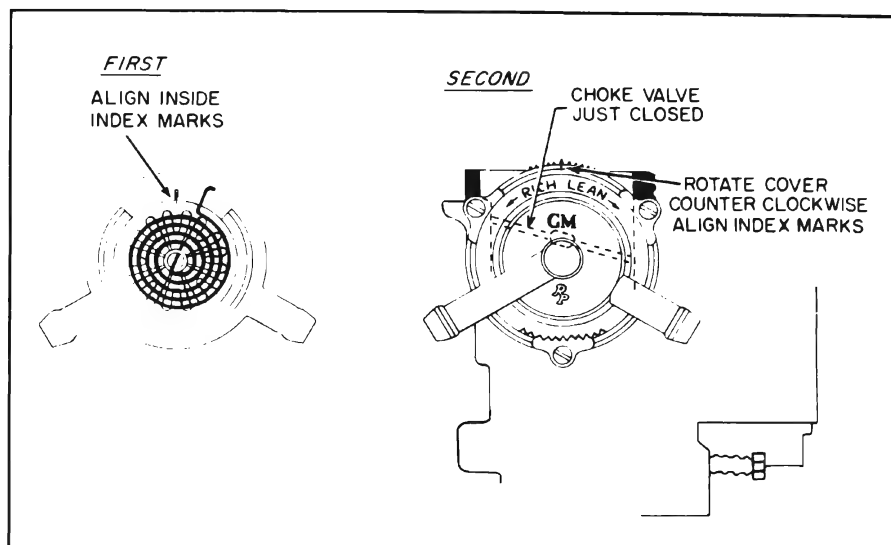

Figure 3-37—Choke Coil Adjustment
2. Before tightening the large outer to inner cover retaining screw, align index marks inside cover to the index mark on the outer cover. Then tighten the large screw securely. This is very important for proper choke indexing. See Figure 3-37.